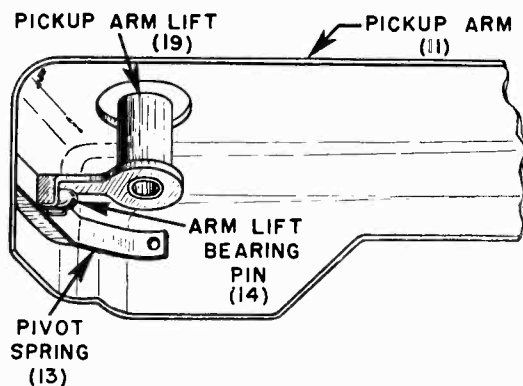

FIGURE 4.
- (b) Lift the pickup arm and check to see that the pickup arm lift (19) is positioned properly over arm lift bearing pin (14). (See Fig. 4.)
- (d) Loosen set screw in lift adjusting collar (10).
- (e) Remove slack by pushing up on push-off cam and shaft assembly (42). Do not compress the arm lift shaft spring (41).
- (f) Using a #6-32 Bristol wrench, place it in the set screw and slide the lift adjusting collar (10) down until it is snug against the pickup arm lift (19).